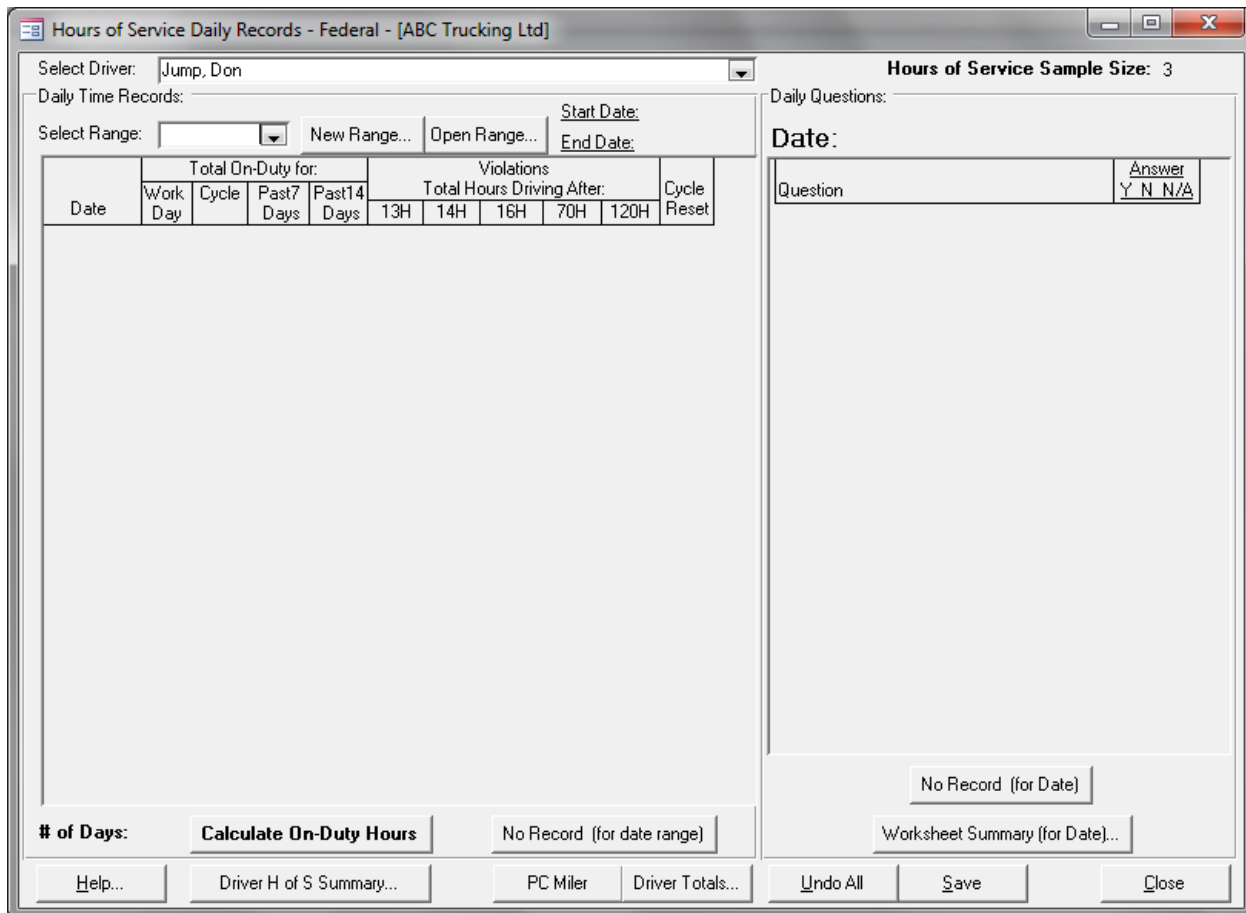

Figure 1: Hours of Service Daily Records Screen
2. Then, select the “**Internal Hours of Service**” tab. This carrier has a Federal Operating Status. *(Note: the screens and questions would be different for a Provincial carrier)*. You should now see the Hours of Service Daily Records screen (Figure 1).
- Select Save and then Close. This will return you to the *Hours of Service Daily Records* screen (Figure 1).